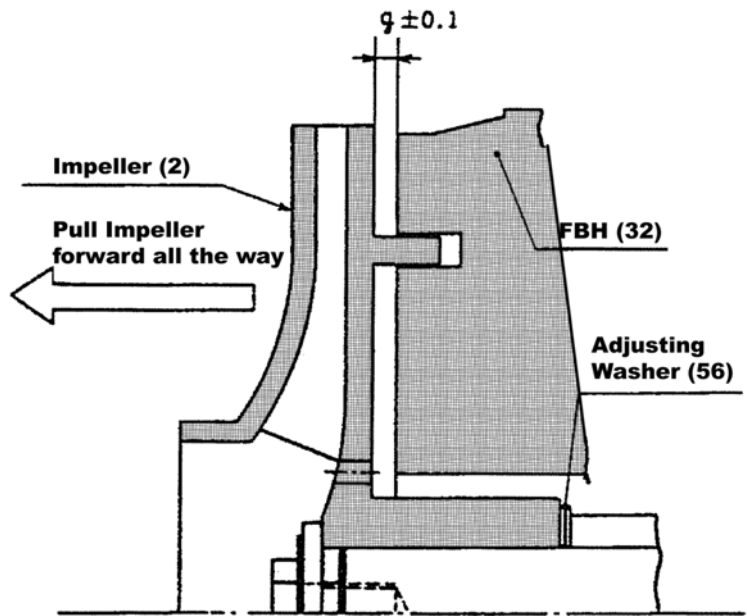

Figure 4-2. "g" Gap
7. Measure and record the "g" gap before further disassembly. See Figure 4-2, on Page 13.
8. Adjusting the "g-gap" using Figure 4-2, Page 13 and Table 4-3, Page 14. Pull impeller forward and with adjusting washers, installed behind impeller in place, Gap "g" should be within indicated ranges using Table 4-3, Page 14. If gap is not within specified range, use adjusting washers behind impeller to make adjustments.